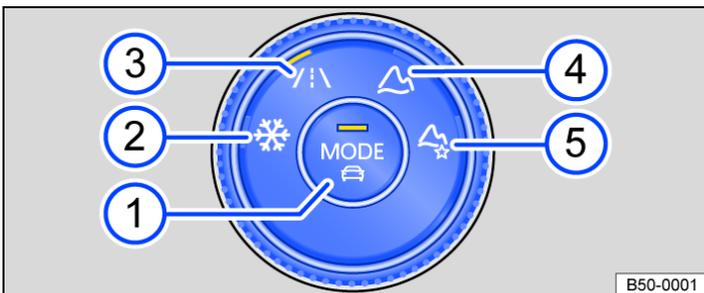

Fig. 2 In the centre console: rotary switch for 4MOTION Active Control.
1. Turn the rotary switch until the LED lights up next to the desired driving profile → Fig. 2.